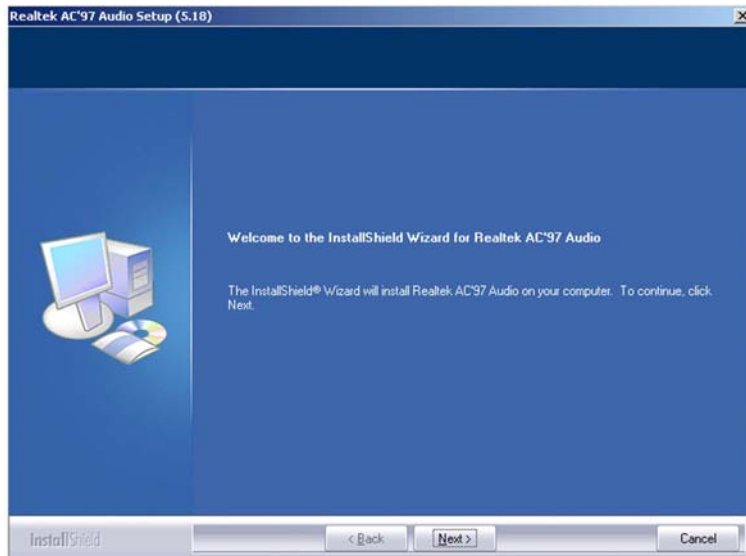

Figure 6-24: AC`97 Audio Driver Welcome Screen
Step 5: The Realtek Audio Setup prepares the install shield to guide you through the rest of the setup process. See **Figure 6-24**.
Step 6: After the install shield is prepared, the welcome screen shown in **Figure 6-24** appears. To continue the installation process, click the **“NEXT”** button. The install shield starts to configure the new software as shown in **Figure 6-24**.